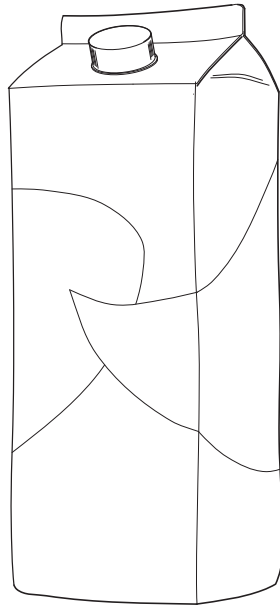

Figure 1
- 1 Figure 1 shows a drinks carton made from a packaging laminate of folding boxboard, aluminium foil and polyethylene.